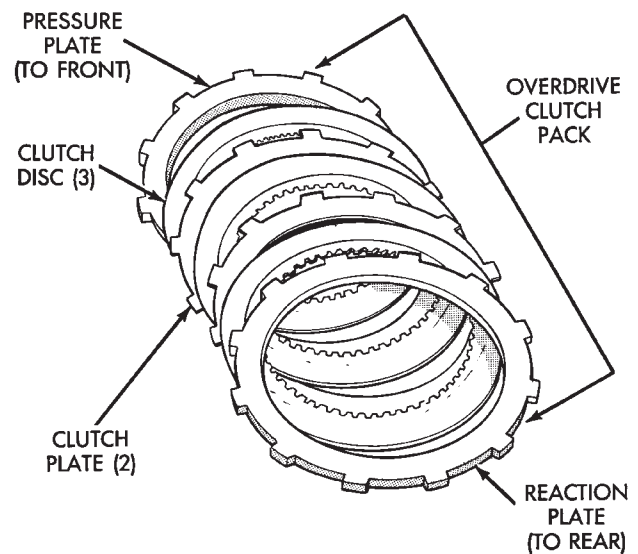

Fig. 253 Overdrive Clutch Component Position
- (3) Note position of clutch pack components for assembly reference (Fig. 253). Thick reaction plate goes to front as shown.